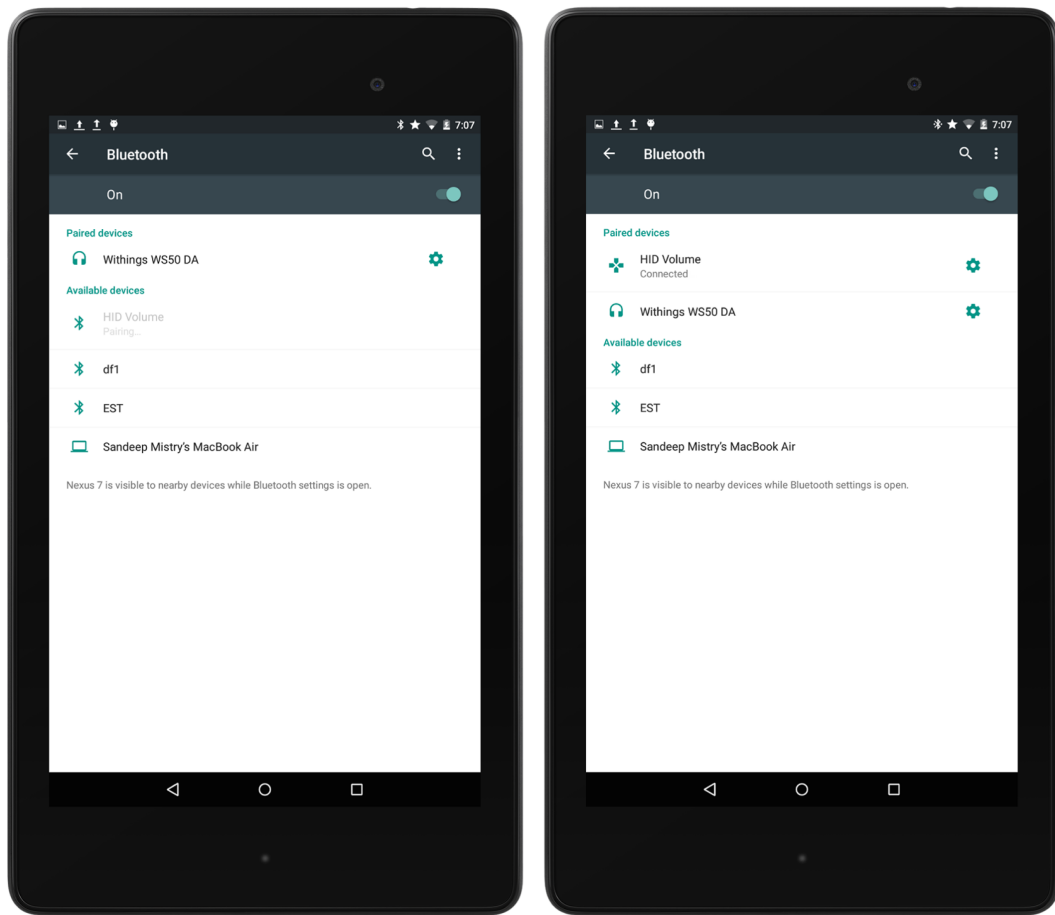

Figure A-5 *Android Bluetooth device-pairing screen*
3. Ensure that Bluetooth is on, and touch the HID Volume device (Figure A-5, left).
4. The device is now connected (Figure A-5, right).